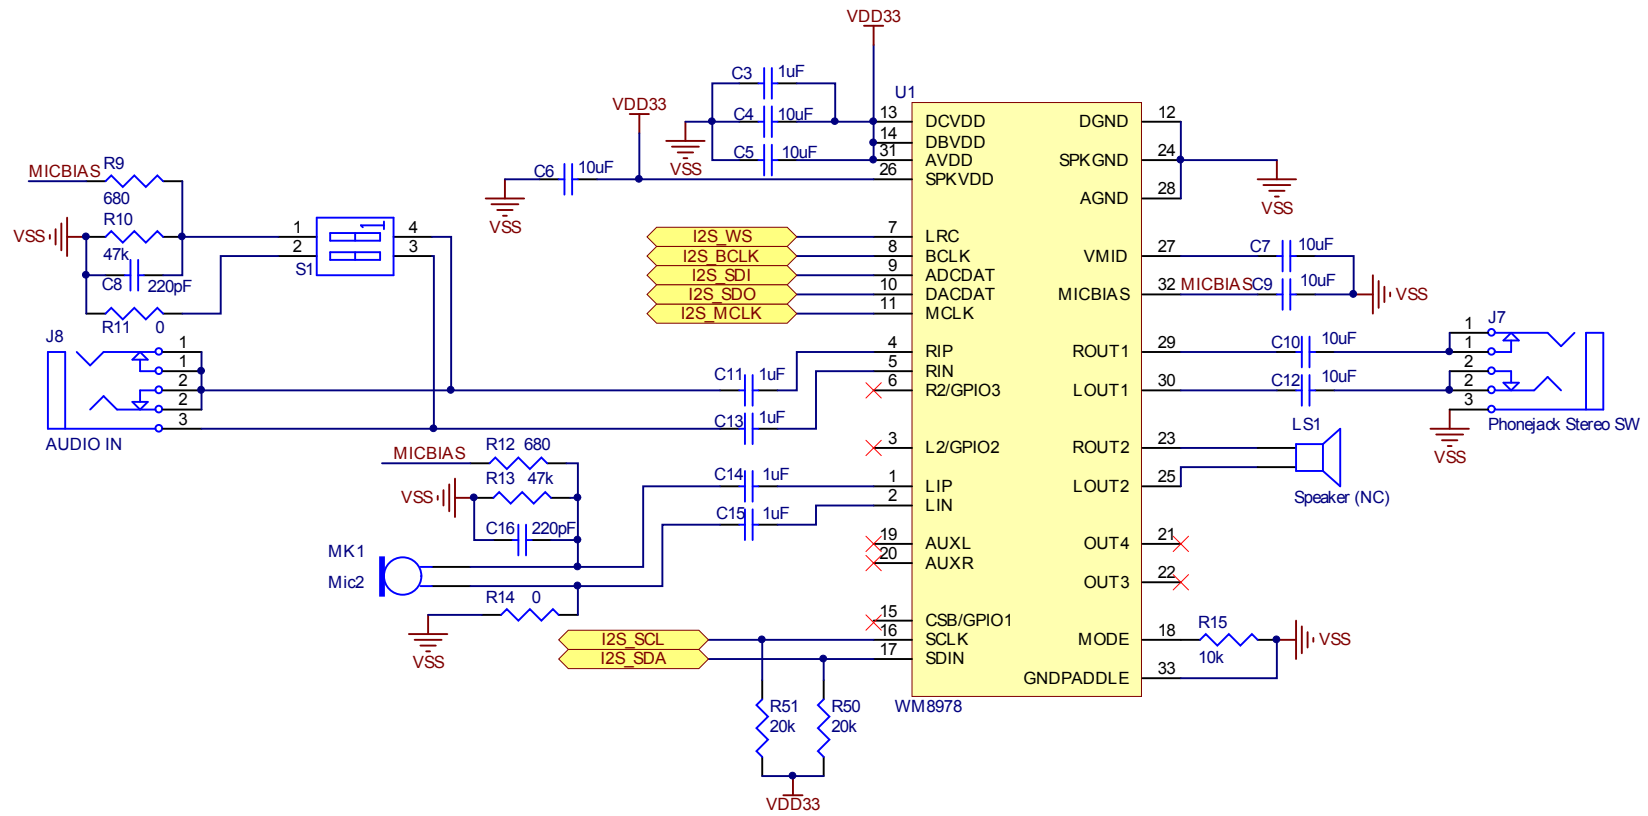

Figure 16. I²S Audio Codec
- Figure 16. includes the I²S Audio Codec.